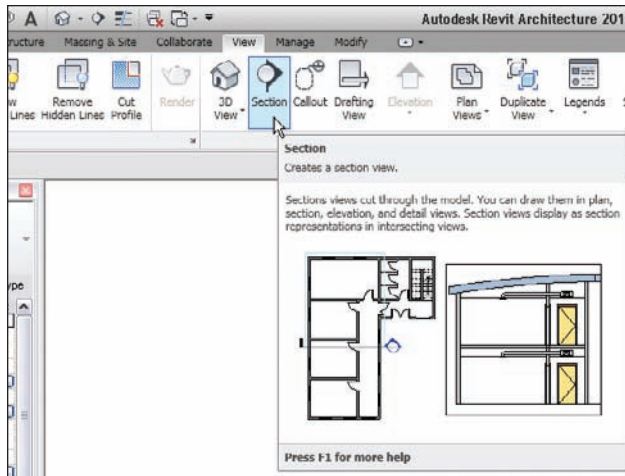

FIGURE 3.31 The Section command is found on the Create panel of the View tab.
2. On the Create panel of the View tab, select Section, as shown in Figure 3.31.